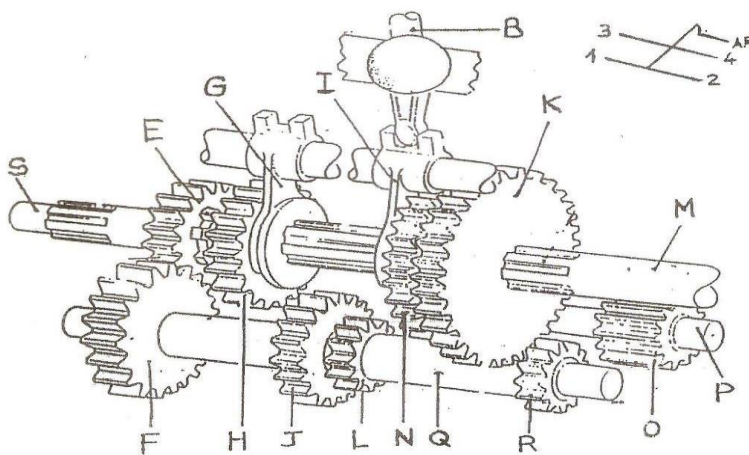

Figure 7
- 7. The **figure 7** below represents a mechanical gearbox.